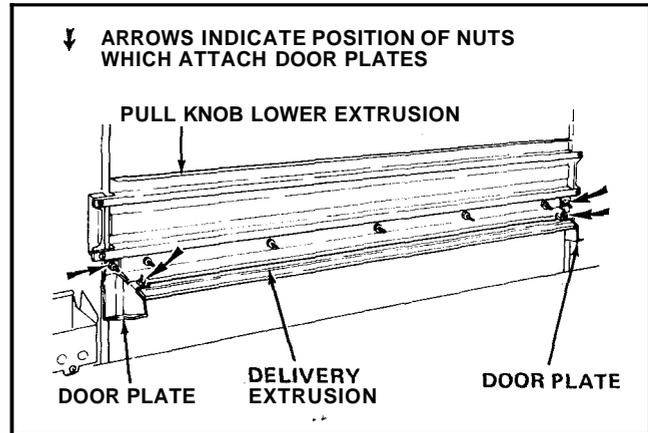

FIGURE 2
11. Place one of the "T" Bolts removed in step 3-b in each end of the slot in the Delivery Extrusion installed in step 10. See Figure 2.